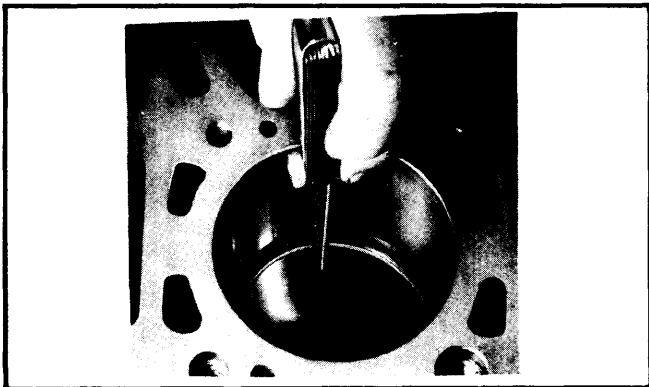

Fig. 8 Measuring Piston Ring Gap
2) Place rings in cylinder near bottom of bore and measure end gaps. Place rings on piston and measure side clearance. If high steps have developed on lower back side of ring lands, replace piston. See Fig. 8.